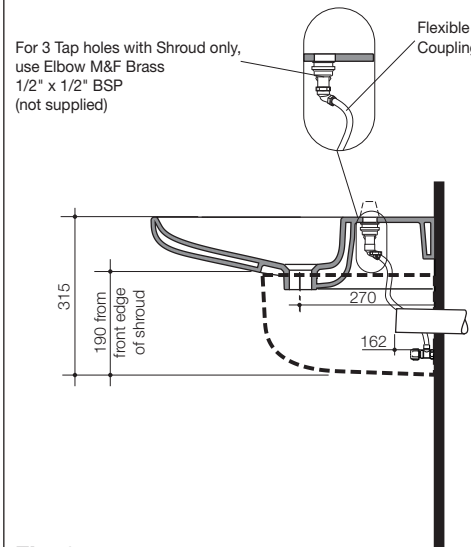

Fig. 3
- 4- Locate basin onto the Fixing Screws on the wall. Insert plastic bushes, metal washers and fasten to wall with fixing nut. To complete assembly as detailed in **Fig. 3**.
- 5- The Plastic Bush allows for leveling adjustment if required by rotating the hexagonal head bush, the basin will be slightly raised or lowered as shown in **Fig. 3**.
- 2- Ensure basin is secured and plumbing is connected. The brass elbow shown in **Fig. 3** to be used only on 3 Tap hole basin (Optional).